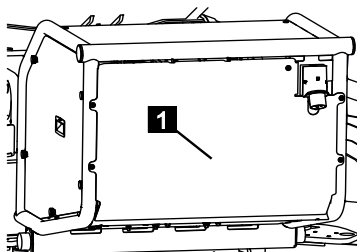

Fig. 243
1. Unscrew and remove the cover (Fig.243/1).